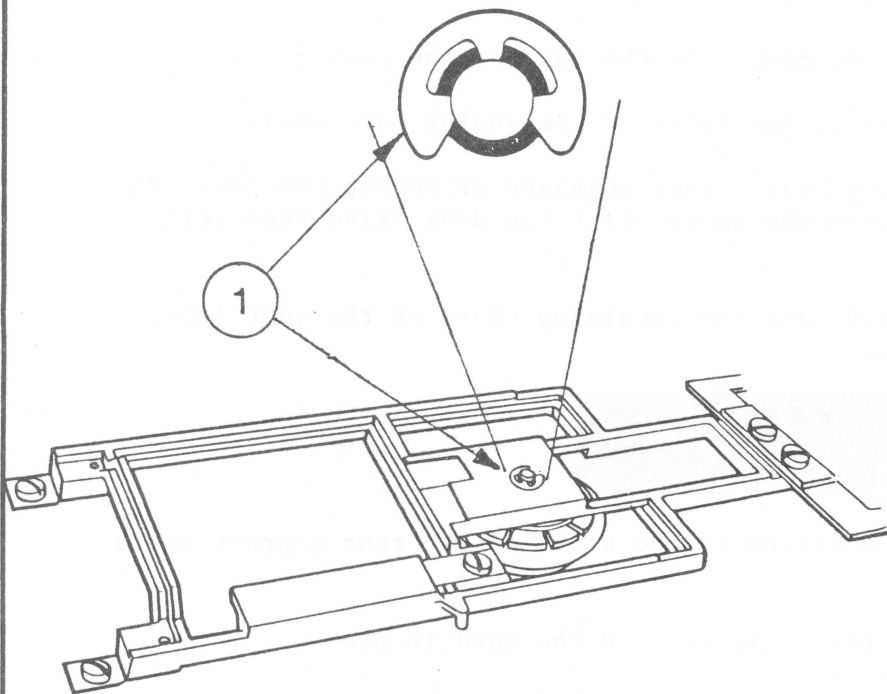

FIGURE 5
4. With a screwdriver, pry the retaining clip (Fig. 5, #1) off the shaft holding the collet.